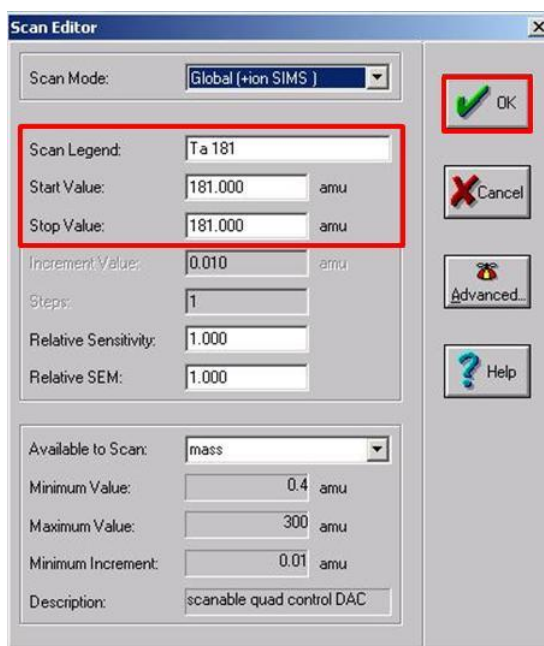

Fig.7: Scan Editor window.
- dubbel-click on a selected line, a *Scan editor window* will show up (Fig.7).
- from the table (on paper in the log book) select the **mass** that corresponds to the selected element, considering the points below Fig.7. *)